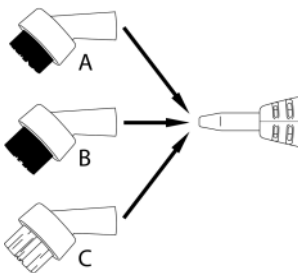
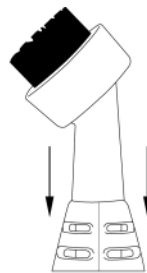

FIGURE 3
FIGURE 4
1. To attach 10 mm Nylon Utility Brush (FIGURE 3-A), 15 mm Nylon Utility Brush (FIGURE 3-B), or Brass Utility Brush (FIGURE 3-C), first make sure Steam Jet Nozzle is properly installed. Then simply slide brush onto end of Steam Jet Nozzle as illustrated (FIGURE 4).
IMPORTANT: To avoid injury, slide utility brush all the way to end of Steam Jet Nozzle as illustrated (FIGURE 4) to ensure no steam escapes.